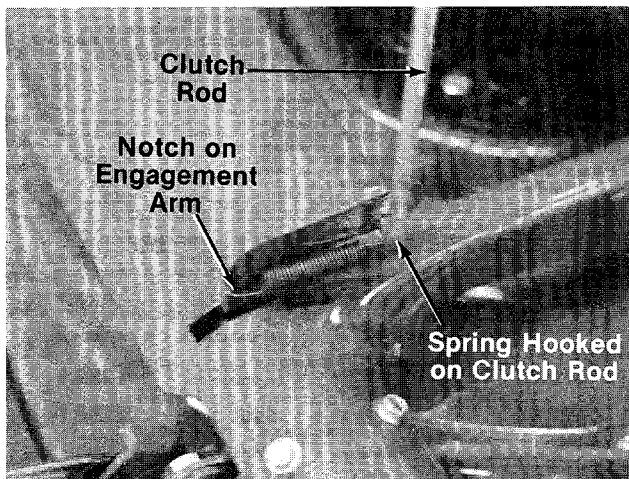

FIGURE 9.
15. Thread the ferrule (B) onto the threaded end of the clutch rod (A) a few turns.
- ← 16. Hook the short end of the spring (D) into the notch on the engagement arm. See figure 9. Hook the longer end of the spring into the notch on the bent end of the clutch rod (A).
17. Pull the clutch rod forward and slip it into the slot on the engagement arm as shown in figure 9.